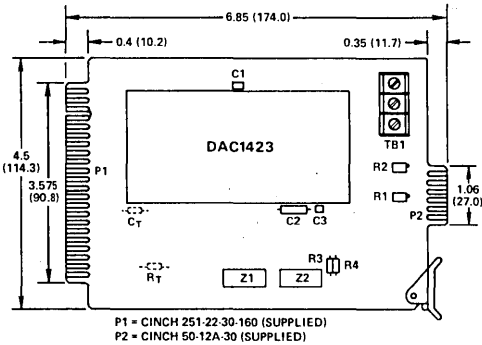

Figure 13. AC1582 Mounting Card. Dimensions shown in inches and (mm).
The AC1582 mounting card is available to assist in evaluating the DAC1423. As shown in Figure 13, the AC1582 is an edge connector card with pin receptacles for plugging in the DAC1423. This card includes offset and span adjustment potentiometers, power supply bypass capacitors and the logic needed for increment/decrement control. Increment/decrement control is enabled via connection to J2. In addition, the card allows for several user-selectable configurations:
These configurations can be programmed by user-installed jumpers, as shown in the wiring chart of Table 3. Jumper locations are not shown in Figure 13, but are labeled on the mounting card.
- 1 Jumper locations are not shown in Figure 13, but are labeled on AC1582.